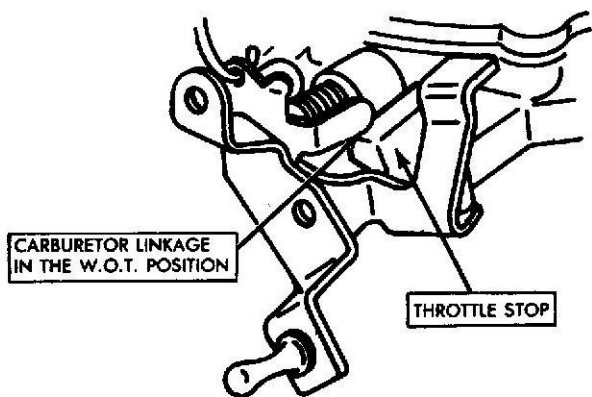

Fig. 1 258 2-V
- (1) Position drop light for proper visual inspection of throttle linkage travel.
- (2) Push throttle pedal down to wide open throttle position.
- (3) Observe position of carburetor linkage in relationship to throttle stop (see figures 1, 2, and 3).